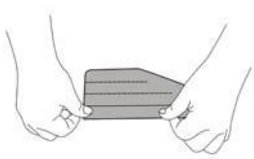

Figure 3a
3. Fold the Lung-Bag portion of the Face-Shield/Lung-Bag (Figures 3a-3d):